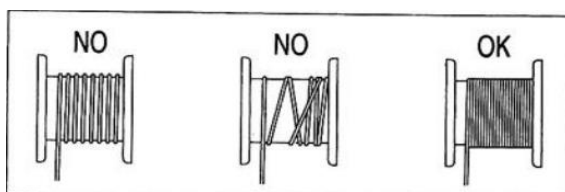

Figure 2
3. If the wire rope is damaged during use and needs to be replaced or you prefer using your own wire rope, ensure that the diameter, safety factor and other requirements meet the manufacturer's certification standards. (Wire rope winding method is shown in Figure 2)